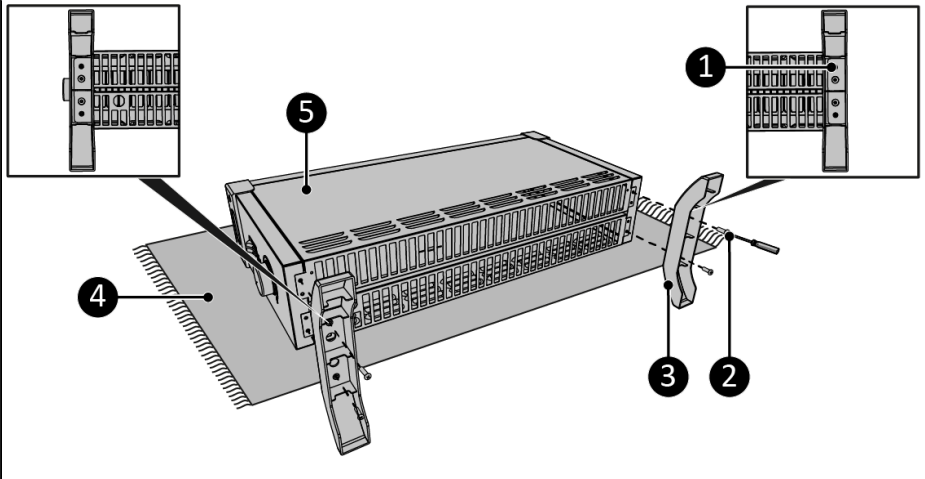

Figure 7.
1. Lay the device down on a steady soft surface (Figure 7, pos. 4).
2. Place the pedestals (Figure 7, pos. 3) on both sides of the main body (Figure 7, pos. 5).
3. Screw and tighten the pedestals with the small screws (Figure 7, pos. 1) using the two holes, with a Phillips screwdriver (Figure 7, pos. 2).